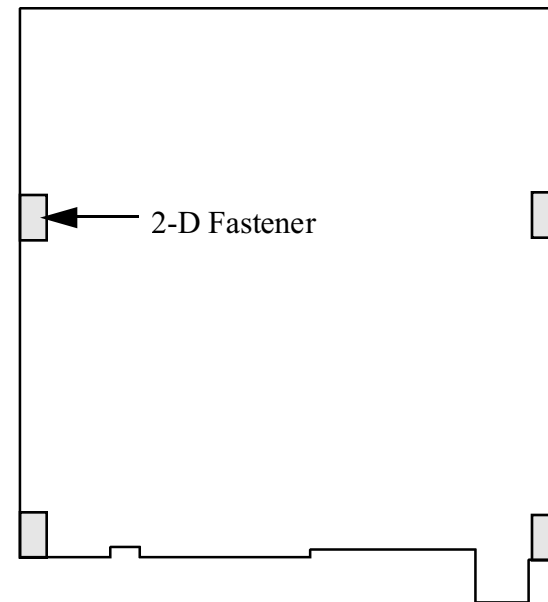

Figure 6-2
□ Turn the board over. (Figure 6-2 shows the bottom side.) Four *2-D fasteners* will be attached to the RF board at the indicated locations to secure it to the chassis panels.
- Install 2-D fasteners at the four locations indicated in Figure 6-2, on the *bottom* of the RF board. Secure each fastener from the top side of the board with 3/16" (4.8 mm) pan-head screws and #4 split lock washers (Figure 6-3b).